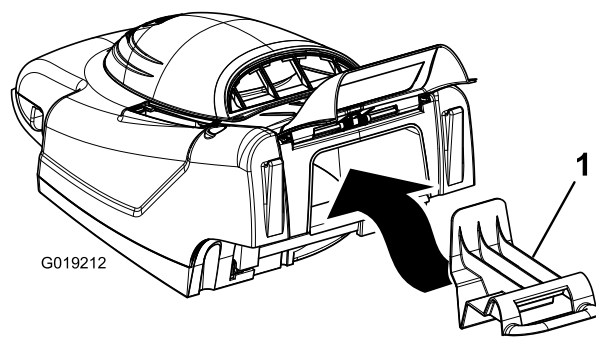

**Figure 15**
2. While holding up the rear door, install the grass bag onto the lugs (Figure 15).